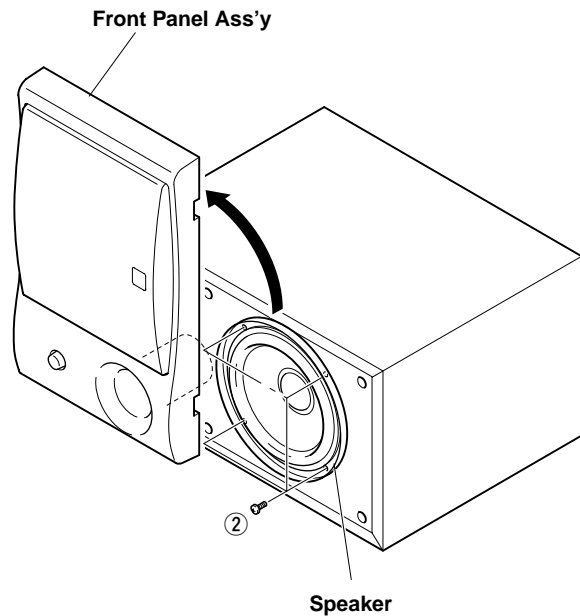

Fig. 2
- a. Set up the front panel ass'y in the direction of the arrow, in Fig. 2.
- b. Remove 4 screws (②) in Fig. 2, and remove the speaker.